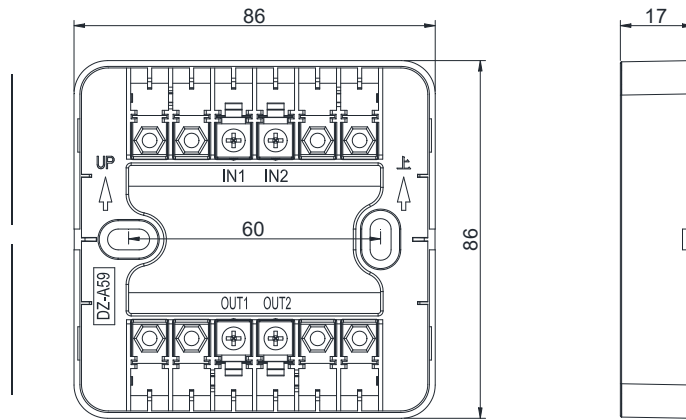
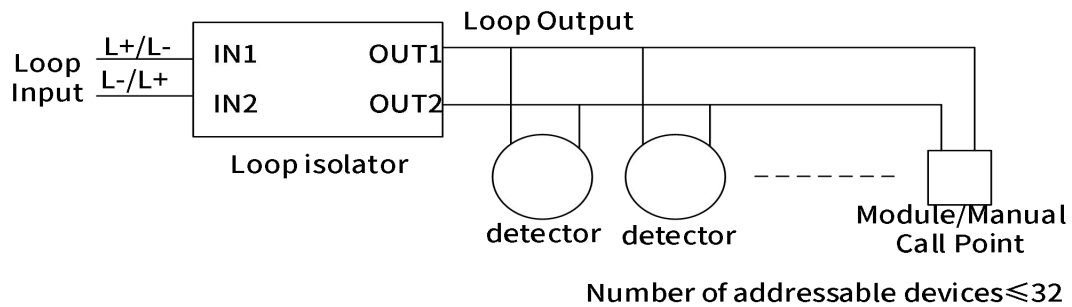

Figure 2 GL-A59E loop isolator base (DZ-A59)
Figure 3 Schematic diagram of wiring
- Connect the cables correctly as shown in Figure 2 or Figure 3;
- According to the construction drawings, fix the base of the loop isolator with two M4 screws through the two oval screw holes shown in Figure 2, and then insert the main body of the loop isolator into the base of the loop isolator, ensuring that the two are in good contact;